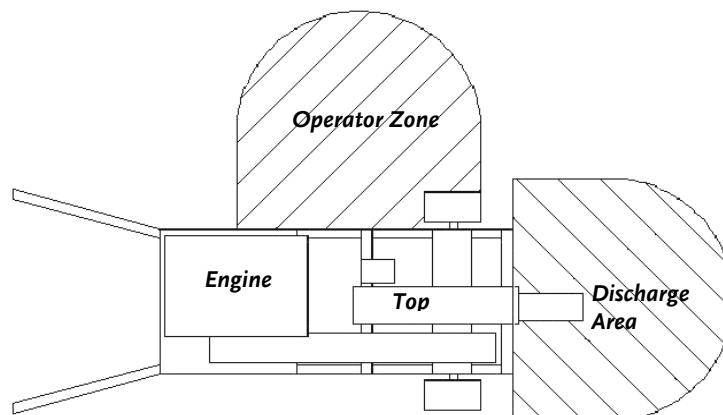

Figure 4
- When viewed from the Chipper Hopper side (Operator Zone, **Figure 4**), the Flywheel turns in a clockwise direction.
- ALWAYS operate the DR 10 HP CHIPPER from the Operator Zone (**Figure 4**).
- If the cutting knife strikes a foreign object or if your machine should start making an unusual noise or vibration, immediately stop the engine and wait five (5) minutes for all moving parts to come to a complete stop and cool. After the machine has come to a complete stop proceed as follows:
- ALWAYS stop the engine when leaving the Operating Zone (**Figure 4**) or when moving the Chipper.